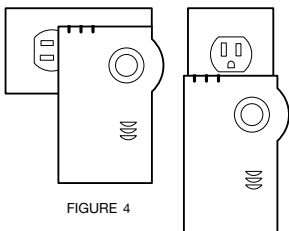

FIGURE 4
2. IMPORTANT: Your CO alarm will mount to a horizontally or vertically oriented outlet (see Figure 4). Rotate the 90° rotating plug for the correct outlet orientation before plugging into outlet (see Figure 5). CO alarm must be installed and used so that it hangs vertically once in outlet.